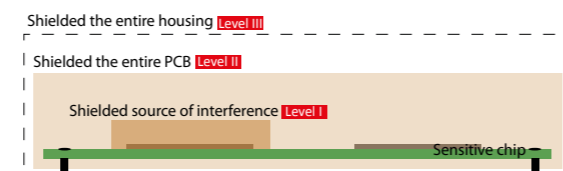

Figure 15.3 : Shielding in three levels, see tip 16- 24
**Level III** Or the outer housing is shielded as well. (Fig. 15.3)